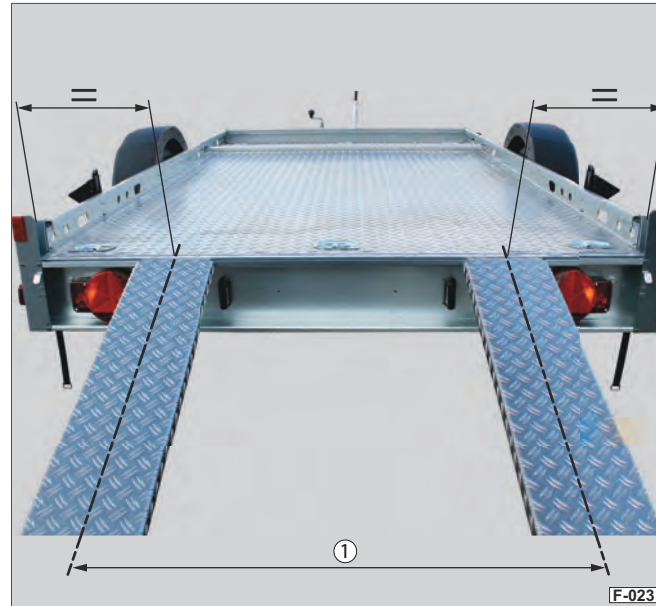

**Fig. 30** Hooking in loading ramp
- ▶ Hook the loading ramp with the edge (Fig. 30 /1) onto the full-length rail (Fig. 30 /2) on the chassis.